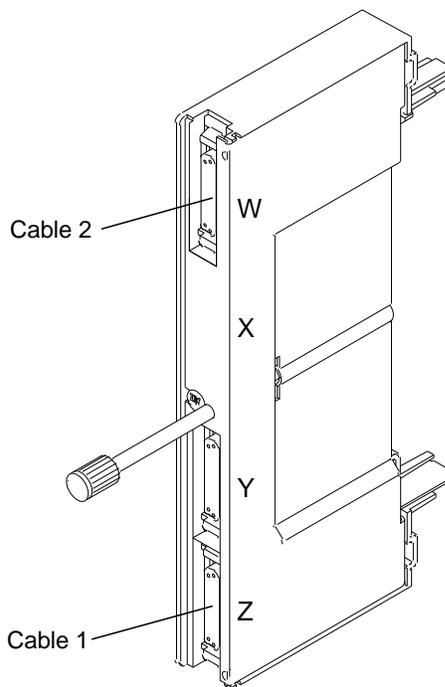

Figure 4-49. DMUX
5. Refer to Figure 4-49 on page 4-40. Note the DMUX cables locations then remove them.